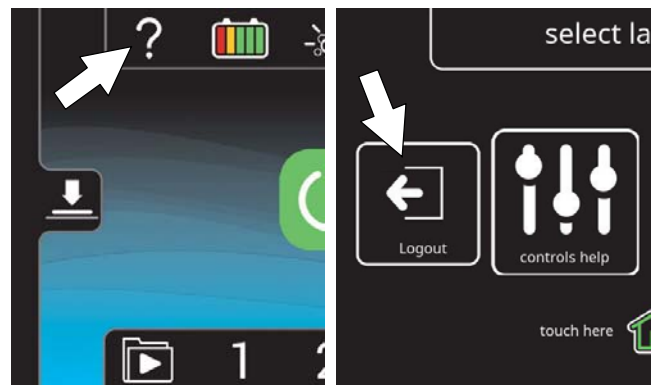

FIG. 175
7. When the user is done operating the machine, it is recommended the user log out by pressing the help button, and then pressing the logout button (Figure 175). Turning the key to the off position is another way to also logout